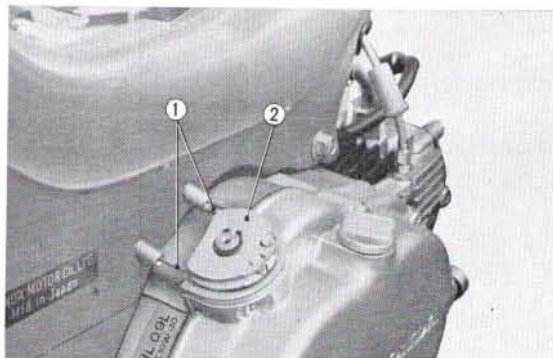

Fig. 2.2 (PS 50)
5. Disconnect two gear change cables from the gear shift wheel. (Fig. 2.2)